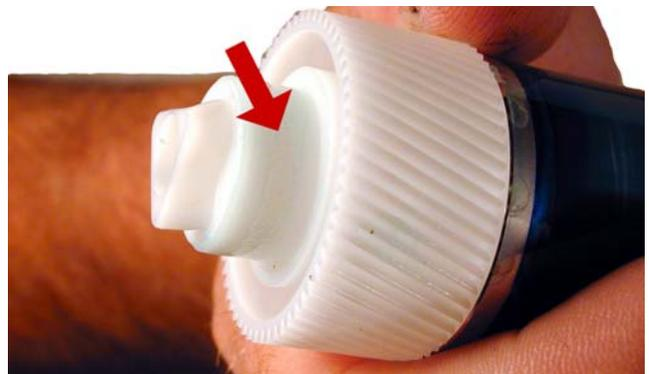

Figure 32
13) If you are re-using the drum, check to make sure the grease on the drum drive gear and hub is clean. If not remove it and replace. White Lithium grease can be used here. Install the drum. See **Figure 32**